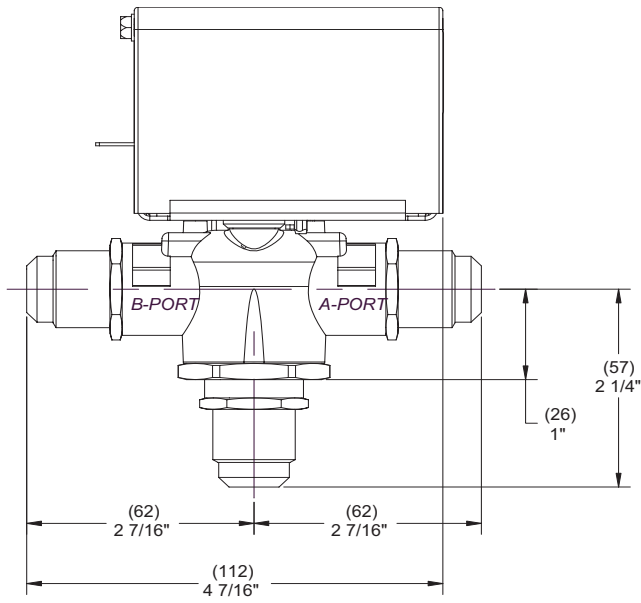
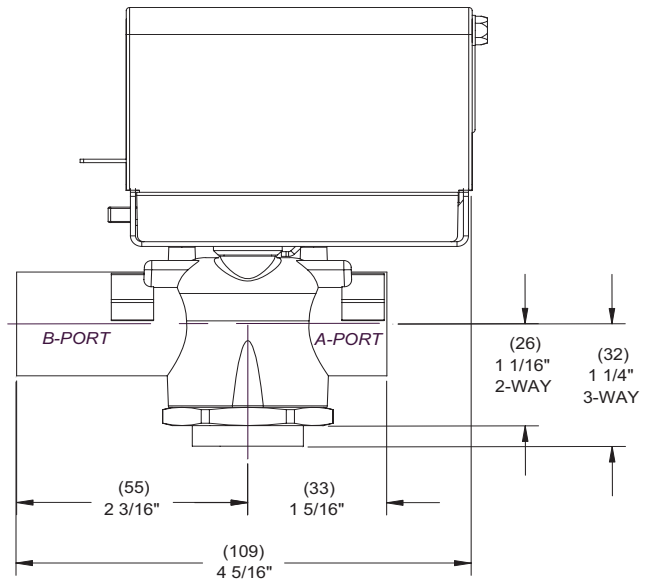

Figure-3 SAE - High Close-Off Style.
Figure-4 Inverted Flare - General Close-Off Style.
| Inverted Flare | See Figure-3 and Figure-4. | | | 4-3/16 (106) | 4-7/16 (113) |
| SAE Flare | | | | See Figure-3 and Figure-4. | |